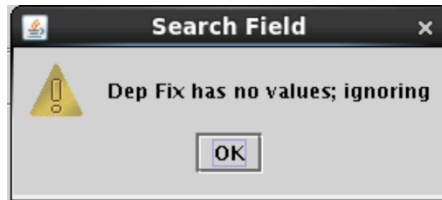

Figure 65. Cleared the filters from the Flights Table.
- Step 4:** Confirm that the search field has no value (Figure 65).